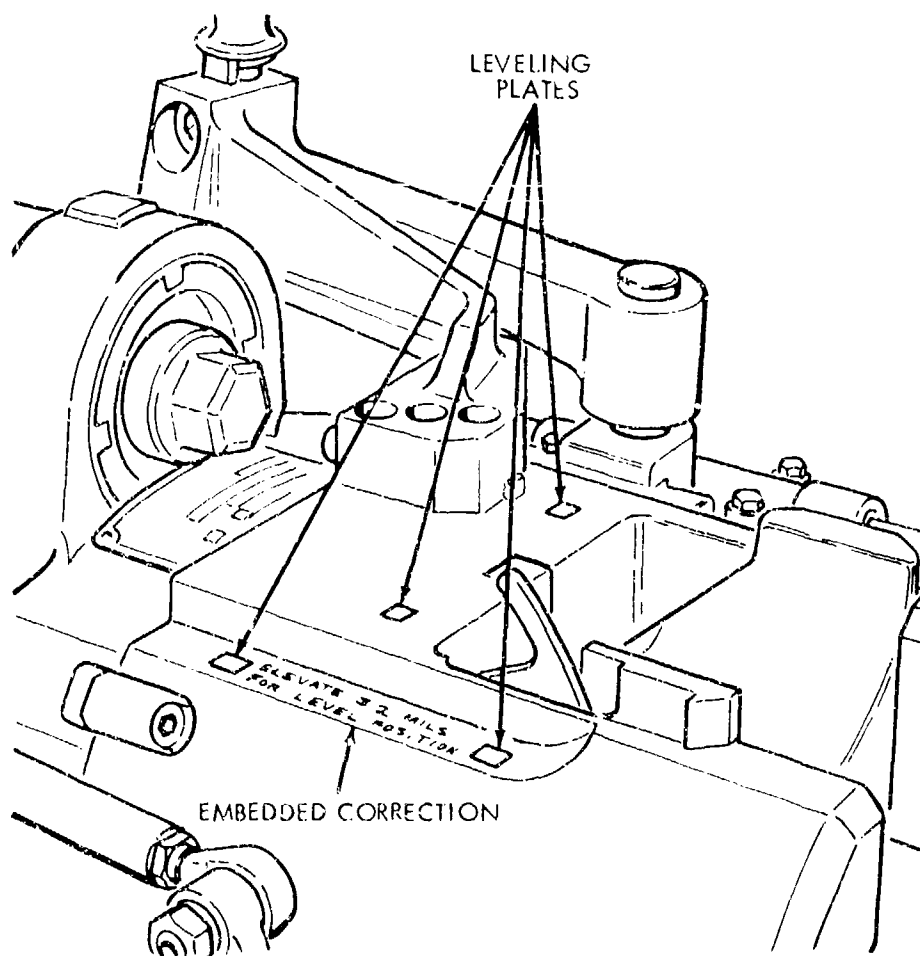

Figure 4-20. Location of breech-leveling plates and embedded correction.
*c. Embedded correction.* An embedded correction, also known as a breech correction factor, appears on most current field artillery weapons. This correction factor is stamped on the howitzer breech, normally between the breech elevation leveling plates (fig 4-20), and represents the angular difference between the tube bore centerline and the elevation leveling plates on the breech. This difference is caused by manufacturing tolerances, and the value varies from weapon to weapon. On most field artillery weapons, this value is generally less than 1 mil. However, on the M102, in some instances, this